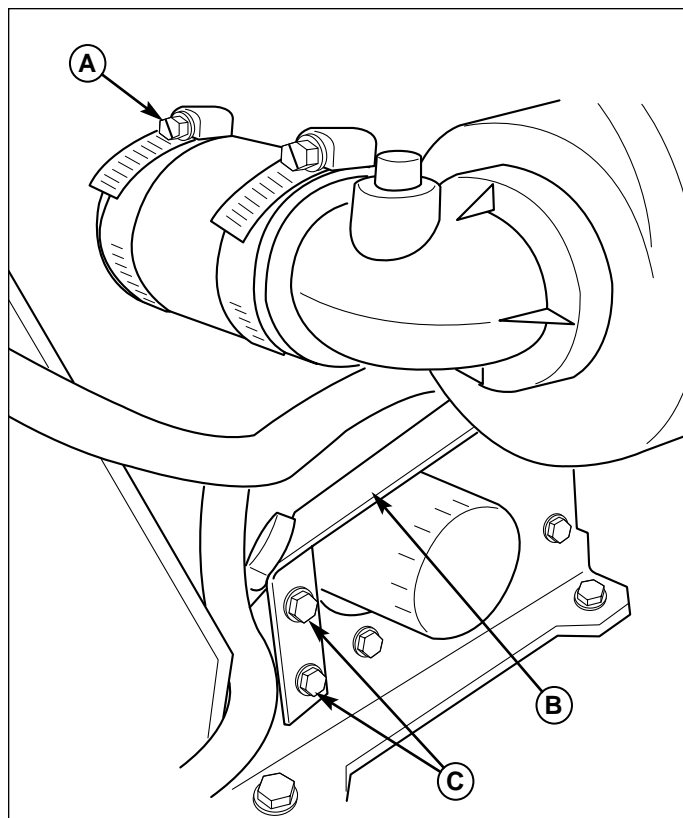

Figure 1. Air Cleaner Support Bracket
1. Loosen the hose clamp (A, Figure 1) on the engine's air intake hose.
4. Remove the two (2) 8mm metric bolts (C, Figure 1) that fasten the air cleaner support bracket (B, Figure 1) to the engine block and discard them.
1. Fasten the new air cleaner support bracket to the engine with the two (2) 8mm X 35mm metric bolts and lock washers provided, but do not tighten (see Figure 1).
4. Reposition the hose clamp on the air intake hose and tighten (see Figure 1).